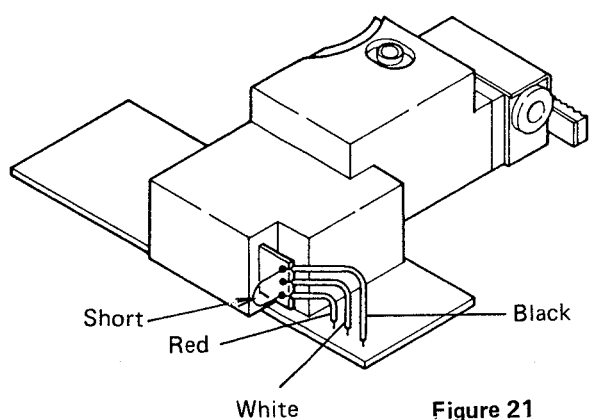

Figure 21
1. When removing the laser pickup, solder and short-circuit the terminals to which red and black leads are connected to protect the laser pickup from damage which may be caused during the removal. (Refer to Figures 21 and 22)